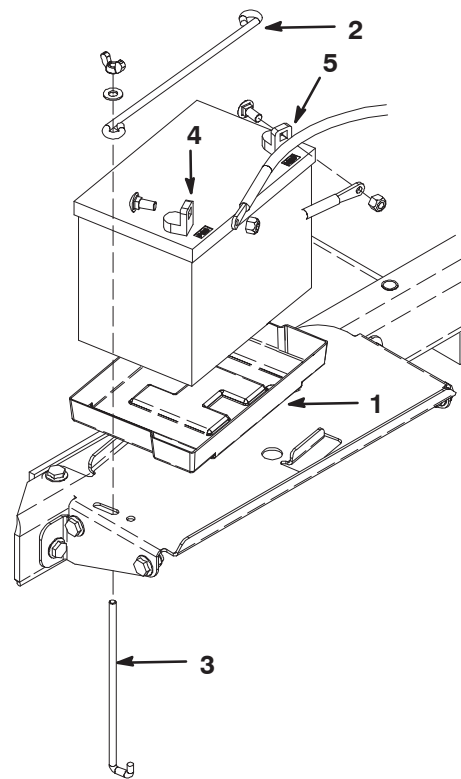

Figure 5
8. Insert the battery into the tray in the battery compartment (Fig. 5) Position the battery so the terminals are to the outside.
9. Secure battery to compartment base with a battery rod, (2) hold down rods, (2) flat washers and (2) wing nuts (Fig. 5).
10. First, secure the positive cable (red) to the positive (+) battery terminal with a carriage bolt and nut (Fig. 5), then the negative cable (black) to the negative (–) terminal of the battery with a carriage bolt and nut (Fig. 5). Slide the rubber boot over the positive terminal to prevent a possible short from occurring.